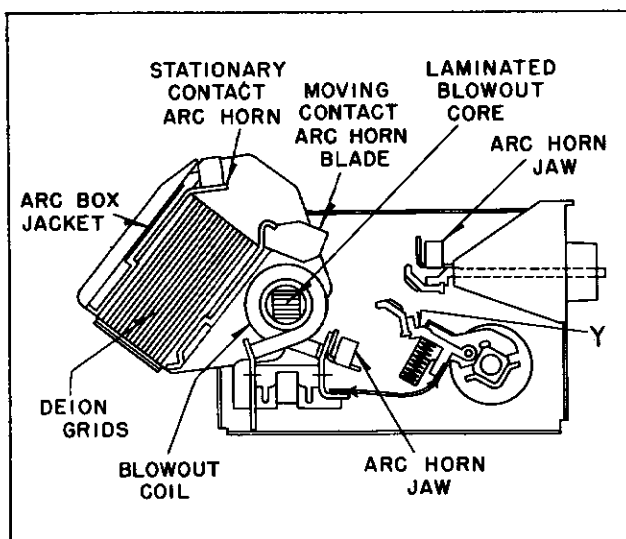

FIG. 5
- 2) Block the moving contacts open by placing a spacer between the copper moving contact support and the steel moving contact stop plate as indicated at Y in Fig. 5.